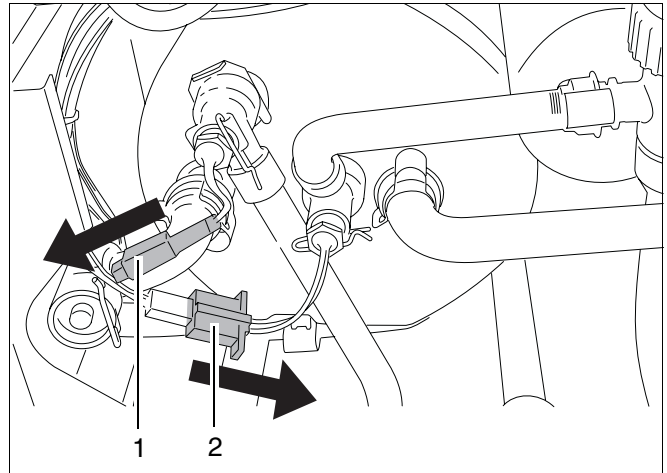

fig. 85 Disconnect plugs of hot water sensors
- Disconnect the plugs of the hot water out flow sensor (→ fig. 85, item 1) and the hot water heat retaining sensor (→ fig. 85, item 2).